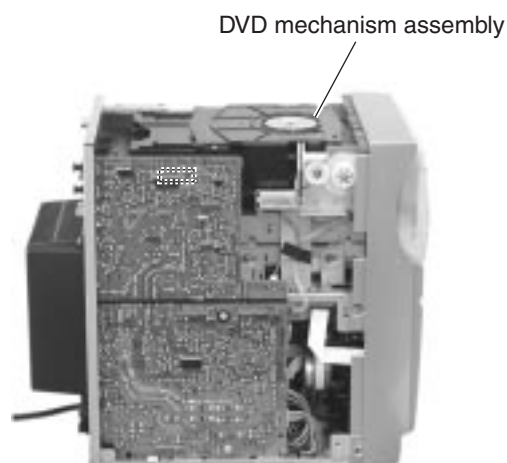

Fig.4
■ Removing the DVD mechanism assembly (See Fig.4~6)